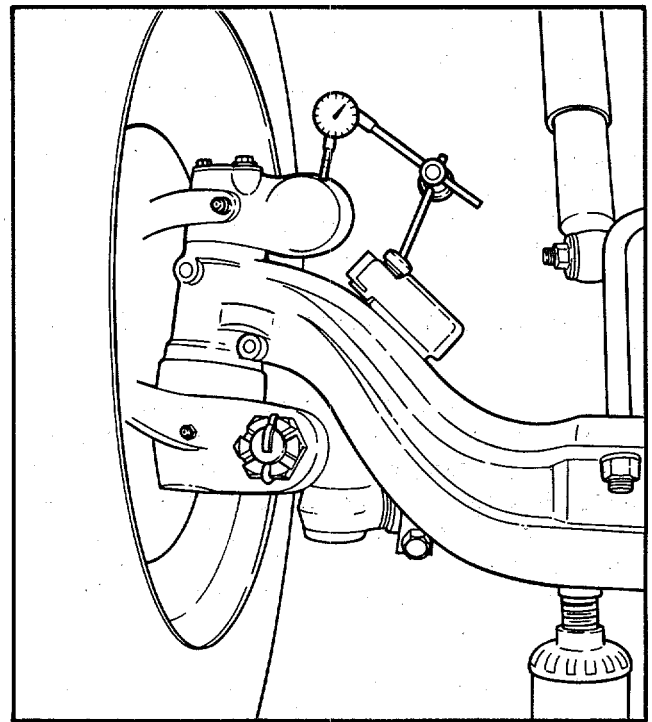

Figure 36
- Attach a dial indicator to the axle beam with a "C" clamp or magnetic base (Figure 36).